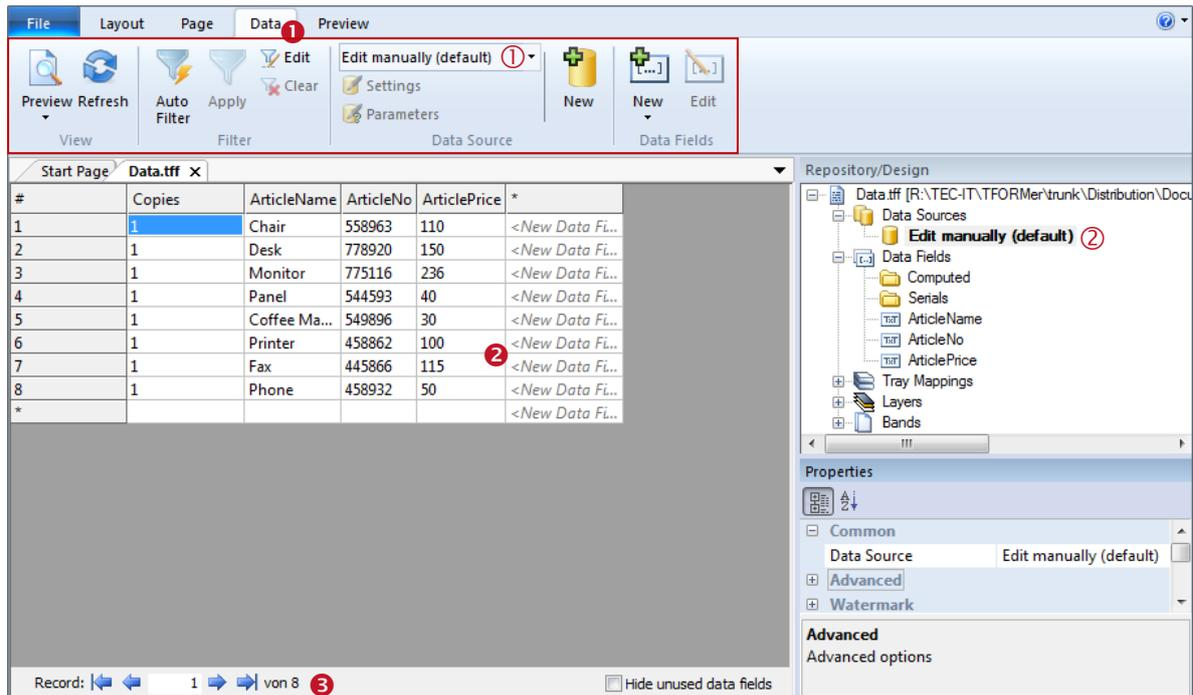

Figure 63: Data View
To switch to a specific data source use the menu command *Data Source | Edit manually (default)* and select the respective item from the drop-down list (see also Figure 63, ❶). Alternatively you can